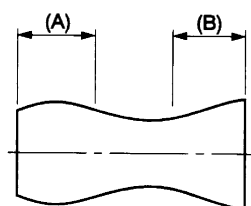

Fig. 2-1-80
4. If the (A) section in Fig. 2-1-80 does not meet the specifications, adjust the S guide roller in up or down direction.
5. If the (B) section in Fig. 2-1-80 does not meet the specifications, adjust T guide roller in up or down direction.